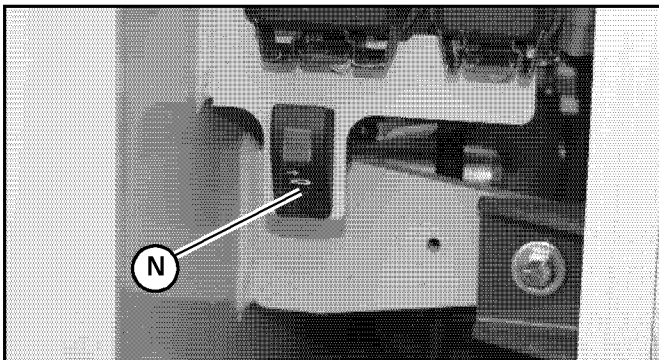

Fig. 142 – Track Tension Switch
15. Start the machine, open the engine compartment and press the bottom of the track tension service switch (N, Fig. 142), to set the track tension cylinders into the operating (extended) position.